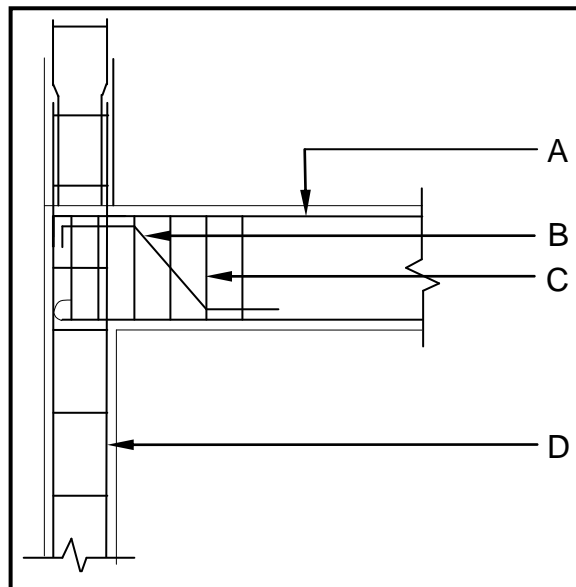

FIGURE 2.8
2.8 FIGURE 2.8 below shows the front elevation of the reinforcement of a beam and column.